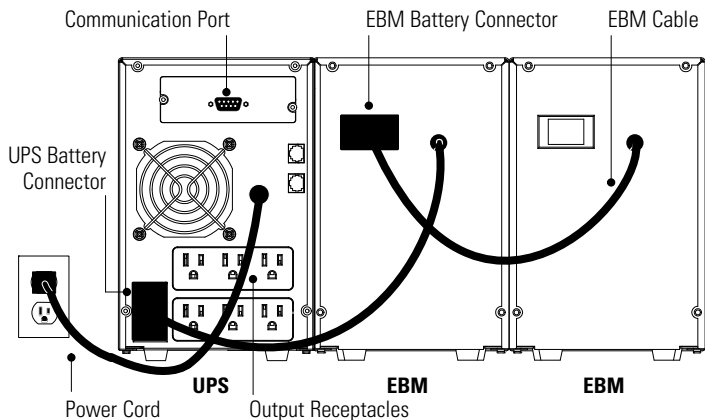

Figure 6. Typical UPS Installation with Two EBMs
Figure 6 shows a typical installation only. See “UPS Rear Panels” on page 24 for the rear panel of each model.
2. Plug the EBM cable(s) into the battery connector(s) as shown in Figure 6. Up to four EBMs may be connected to the UPS.